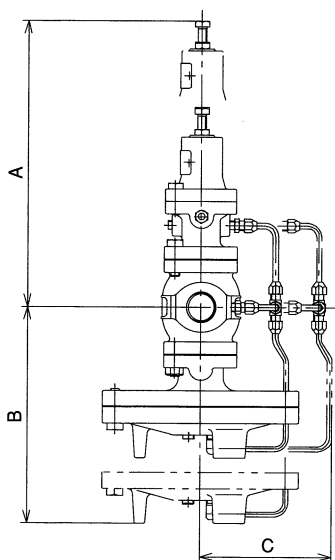

Fig.1
- (1) Install the valve perpendicularly to horizontal lines.
- (2) Set pressure of safety relief valve should be higher than the pressure reducing valve's pressure.
- (3) When the pressure reducing ratio is large, install a reducer to keep the flow velocity below 30m/s or less in the pipe.
- (4) Provide space on the top and bottom of the valve so that the valve can be easily disassembled and inspected. (See Fig.1)